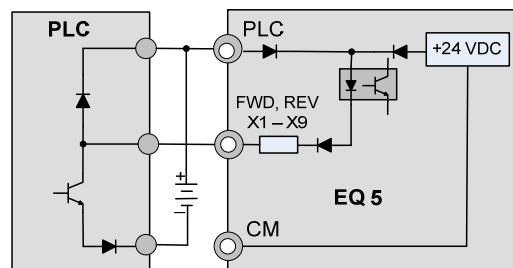

Fig. 2-3-10 PLC Connection for External Power Supply
a. Digital input terminals FWD, REV and X1 to X9 are generally turned on or off by switching the input to (P24) +24V (source logic) or to (CM) 0V (sink logic). If the digital input terminals are turned on or off by a PLC with open collector using an external power supply, a resulting bypass circuit may cause the inverter to malfunction. To prevent this, connect the PLC terminal as shown in Fig. 2-3-10.